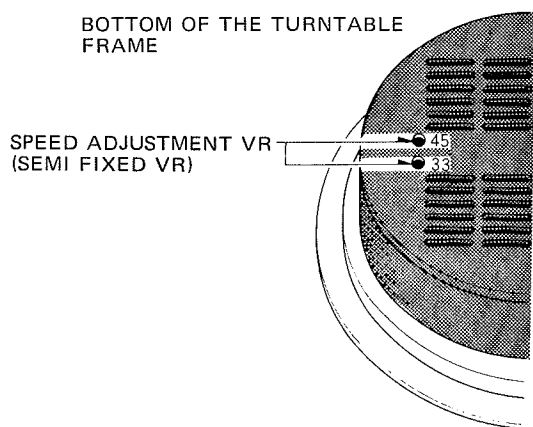

Fig. 13
3. After setting the frequency switch, restore the turntable, put back the detecting magnetic-head to its regular position. Then press the speed selection button "45," and adjust the speed adjustment knob to obtain a still strobo pattern. Next, press the speed selection button "33," and a running strobo pattern will be observed. To have still pattern, adjust the speed-adjustment VR with a small screwdriver through the hole with an indication of "33" as shown in Fig. 13.
1-2 Then, change the speed selection to "33" and, leaving the speed adjustment knob untouched, adjust the speed-adjustment V.R. to have a still strobo pattern again using a small (—) screw driver through the hole which is provided at the bottom with an indication of "33". (See Fig. 13)